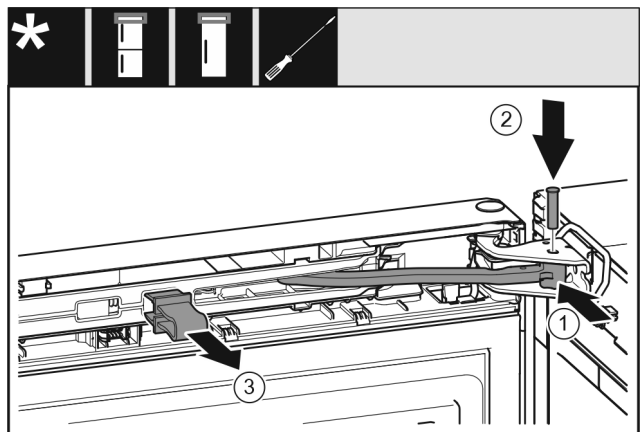

Fig. 56
- ▶ Turn the joint *Fig. 56 (1)* in the bearing block.
- ▶ Insert the bolt *Fig. 56 (2)* into the bearing bracket and joint. Ensure that the latching cam is in the groove properly.
- ▶ Remove the safeguard *Fig. 56 (3)*.